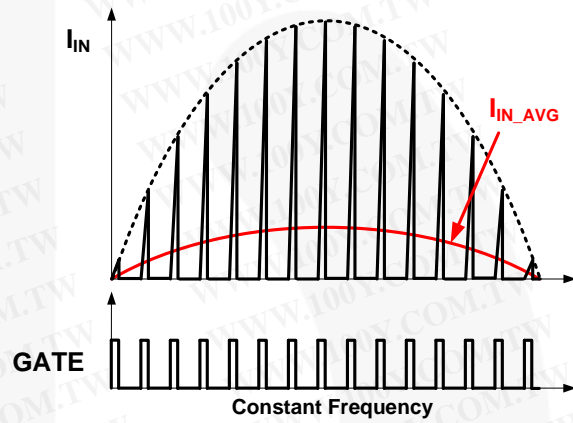

Figure 16. Input Current and Switching
In a conventional boost converter, Boundary Conduction Mode (BCM) is generally used to keep input current in phase with input voltage for Power Factor (PF) and Total Harmonic Distortion (THD). In flyback / buck boost topology, constant turn-on time and constant frequency I Discontinuous Conduction Mode (DCM) can implement high PF and low THD as shown in Figure 16. Constant turn-on time is maintained by the internal error amplifier and a large external capacitor (typically over 1µF) at the COM1 pin. Constant frequency and DCM operation is managed by linear frequency control.